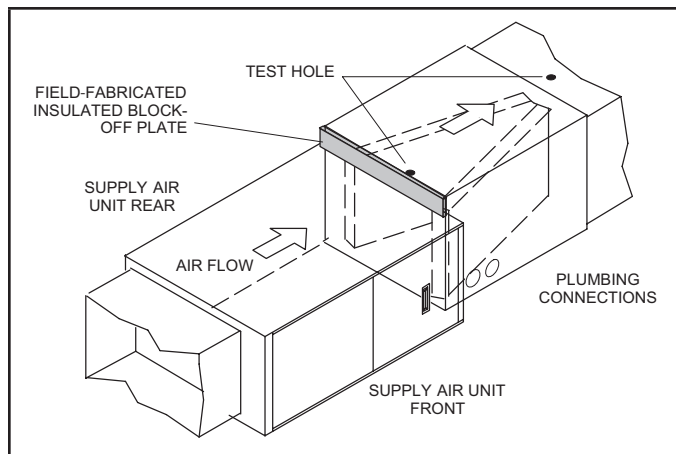

FIGURE 2. D-Width Coil with C-Width Furnace
- 5 - **Applications using CHX35-60 D-width unit with C-width furnace** - Figure 2 shows an application that includes a D-width coil and a C-width furnace. This application requires construction of an insulated, field-supplied block-off plate to cover the open space on the coil housing